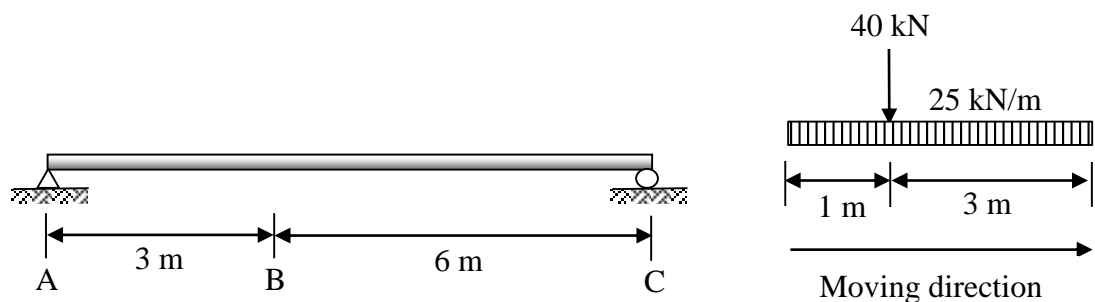

Figure B1(a) / Rajah B1(a)
- (a) A simply supported beam is subjected to a series of moving loads as shown in **Figure B1(a)**. By using Influence Line Diagram, analyze the maximum shear force and bending moment at point B due to a series of loads moving from A to C.